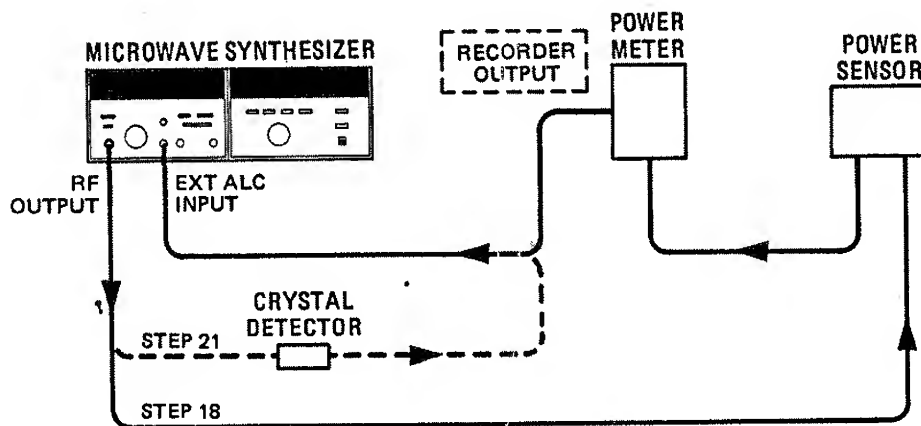

Figure 3-4. Operator's External ALC Checks Test Setup
21. Connect a crystal detector as shown in Figure 3-4. Set the ALC selector 17 to XTAL.